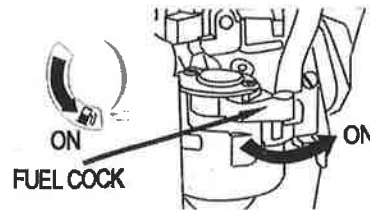

Fig. 6
1. Push the fuel cock to ON position (Fig.6).